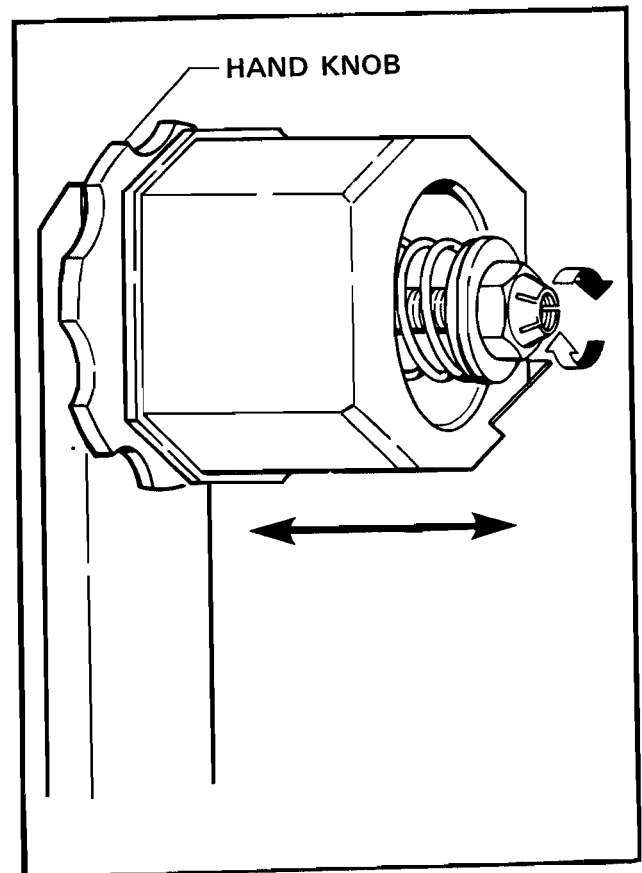

FIGURE 20A
2) Tape Web Alignment - Refer to Figure 20A.